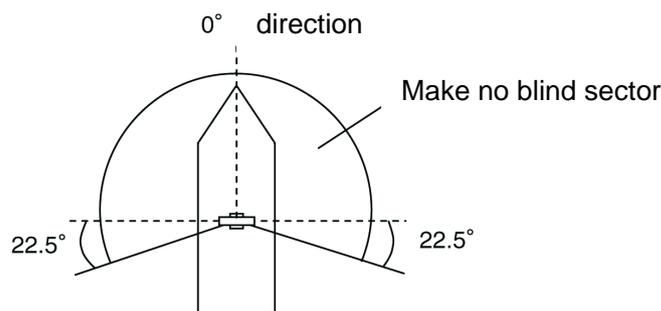

Fig. 1-3-5
- Minimize the blind sector, and ensure the adequate view angle so that the blind sector does not exist in the range  $22.5^{\circ}$  from side to rear (Fig. 1-3-5). Specifically, ensure a sufficient view field in the straight front (relative bearing  $000^{\circ}$ ).